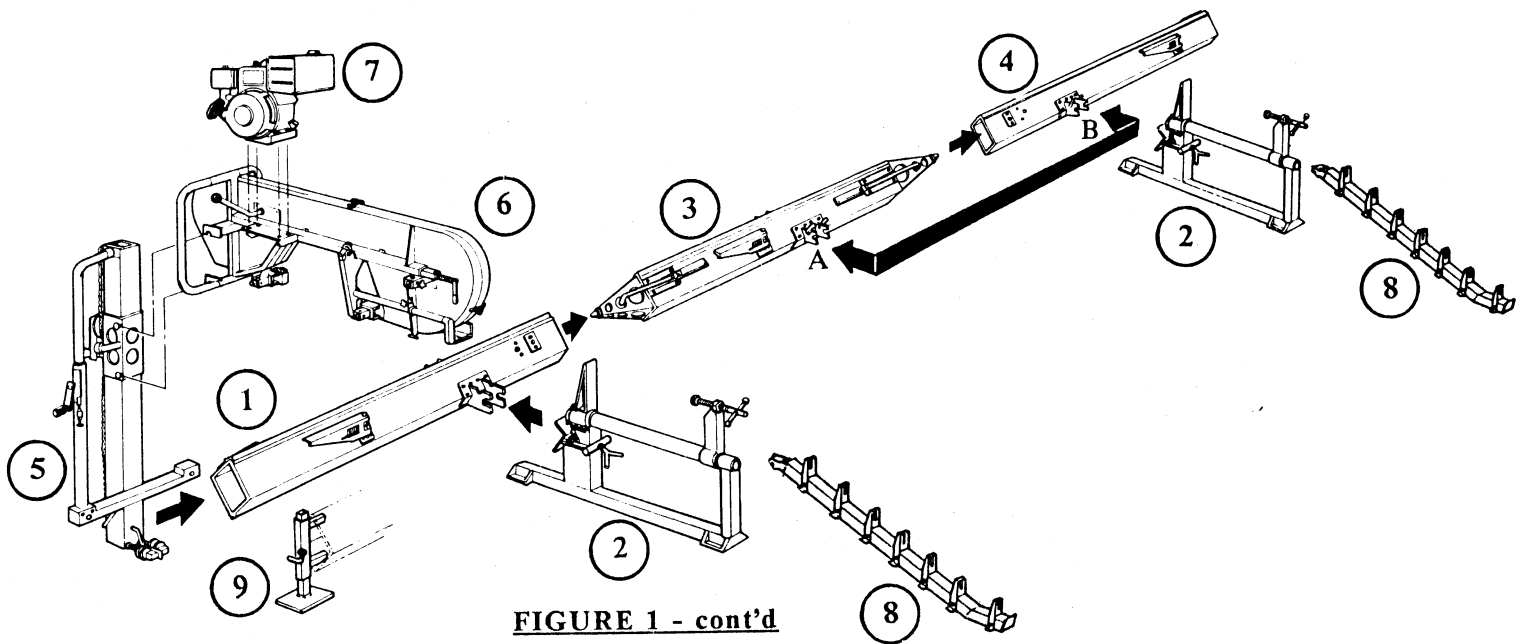

FIGURE 1 - cont'd
7. Before assembling the remaining Log Deck (#2), notice that there are two places it can be attached to the main track. If you are sawing logs eight (8) feet or less, use position (A) (See Figure 1). If you are sawing logs longer than eight (8) feet, use position (B). Repeat Log Deck assembly as described in Step 4.
8. Assemble the Carriage Assembly (#5) to the track assembly by simply lifting it onto the track so the upper and lower rollers will run on the replaceable stainless steel upper and lower tracks (See Figure 1).
9. Assemble the Cutting Head (#6) to the Carriage (#5) as shown in Figure 1. There are four "hooks" on the Cutting Head that will slide over the four "posts" on the Carriage Assembly. The Cutting Head weighs over 170 pounds (with motor) and it is awkward for one person to carry alone. It is **not** recommended that the Cutting Head be mounted on the Carriage Assembly by one person. **NEVER** assemble or disassemble the Cutting Head with a blade installed.